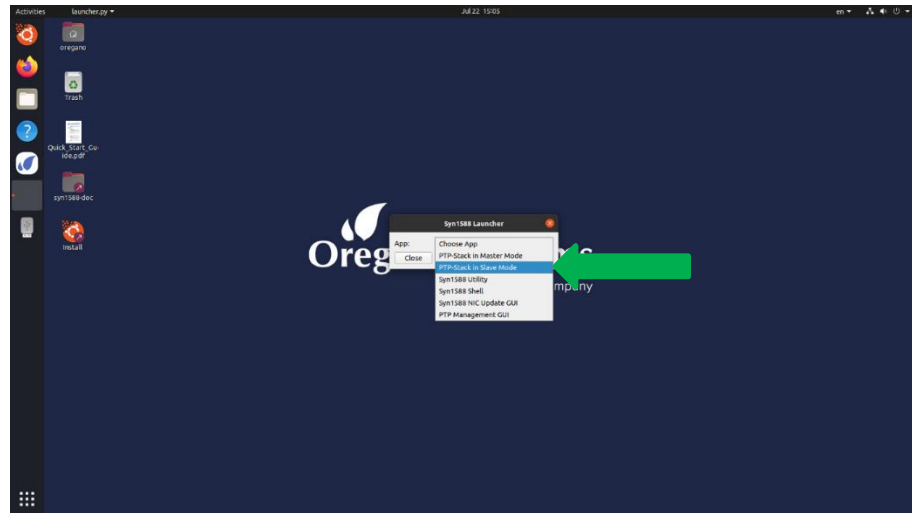

Figure 8 Select to run “PTP-Stack in Slave Mode”
2. Select “PTP-Stack in Slave mode” in the drop-down menu (Figure 8)
2. Select “PTP-Stack in Slave Mode” in the drop-down menu (Figure 8)